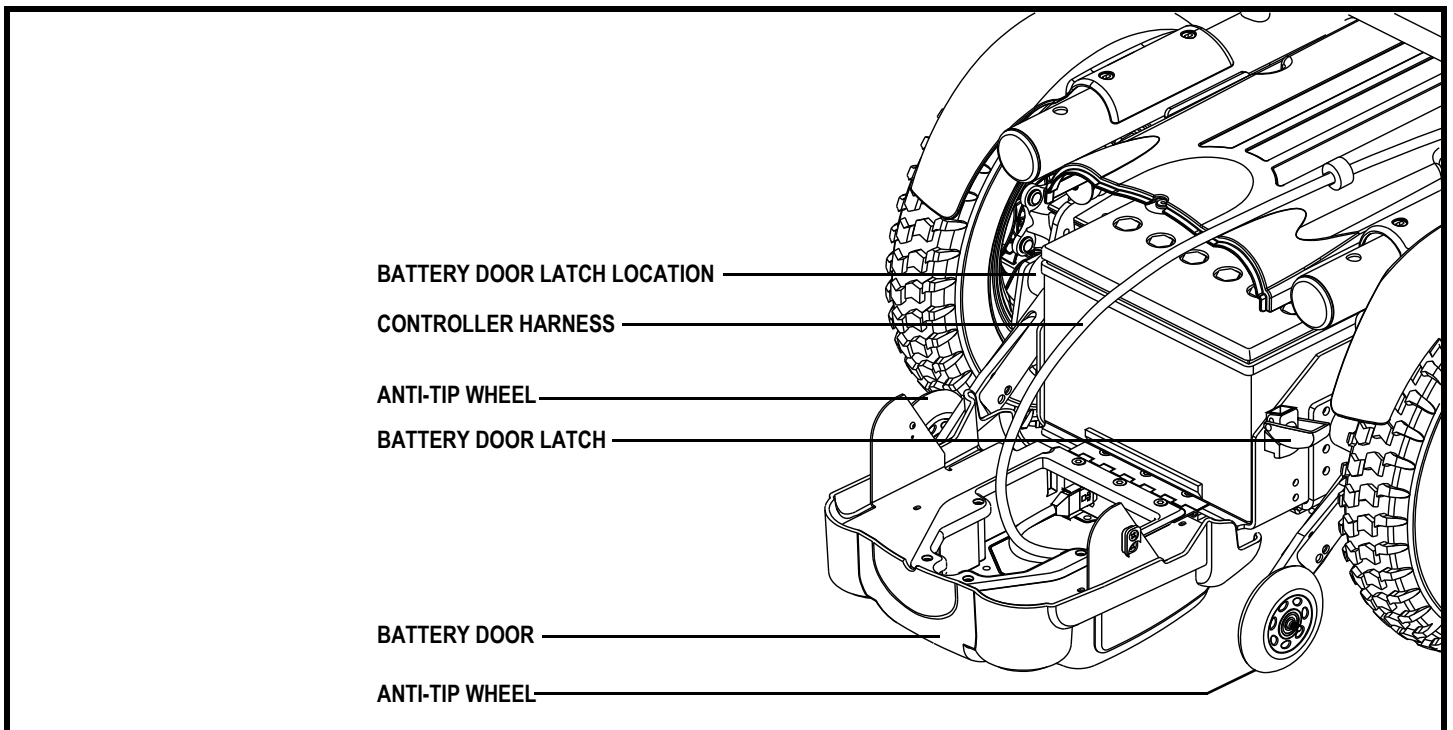

Figure 7. The Quantum R-4000 Power Base (Rear View - Battery Door Down)
7. If the controller connector is located at the rear of the power chair, release the battery door latches and open the battery door. See figure 7.